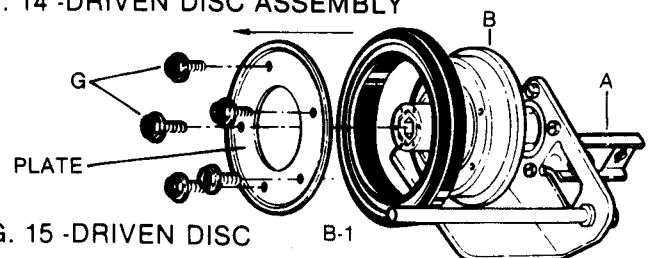

FIG. 15 - DRIVEN DISC
Remove the five machine screws (G) and plate securing the driven disc rubber ring (B-1) to the hub (B) and replace the ring as shown in FIG. 15. Reverse procedures for re-assembly and installation.
2. Re-adjust "Tracking", by imagining (or drawing) a reference line across drive disc center; loosen hex nut (W) securing thrust plate guide (X) to thrust plate (Y) at slot (Z).